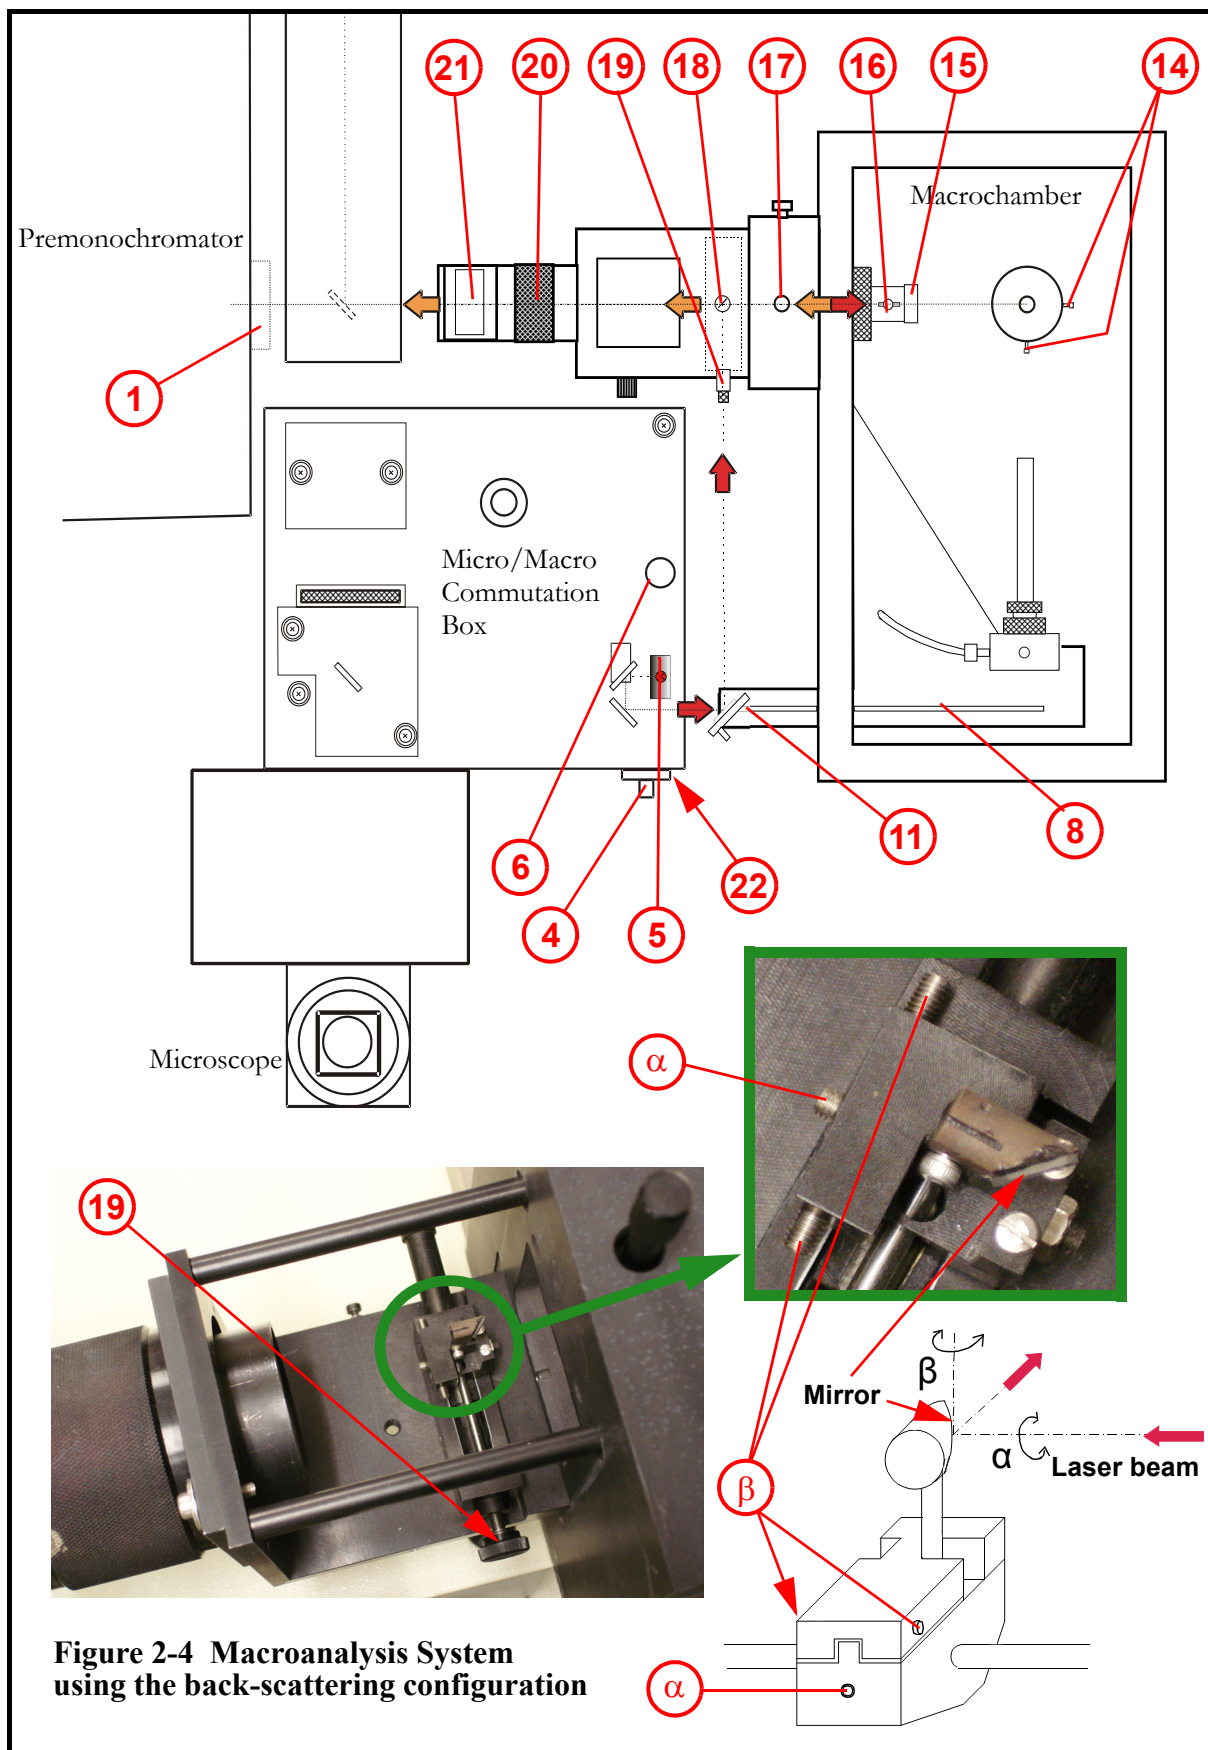

Figure 2-4 Macroanalysis System using the back-scattering configuration
3	1 Pull down the Micro/Macro selector (see “Micro/Macro Mirror” on page 40) and (6) figure 2-2, 2 Open the Macro-sample compartment, 3 Place a sample on the sample holder (14) located in the macro-sample compartment, 4 Displace the mirror (11) along the sliding rail by slightly unscrewing the knurled knob below the mirror holder, 5 Install the Back-Scattering mirror by sliding the (19) knob. This will perform a rough adjustment by steps. Fine tune the position using the rotative part of the (19) knob and the a and b screws located on the mirror holder (see figure 2-4, page 64). 6 Turn the XYZ adjustment screws as to perform a Raman-type light emission through the collimator lens at the output of the macro-sample compartment. The following devices can be fine tuned: - Mirror orientation (11) - XYZ sample holder adjustment (14) - collecting image focusing (16) or change the exit focusing adapter (15) -option- - T64000 entrance slit focusing with the transfer optics (20) NOTE: These adjustments would be easier using the Macro Camera Viewer or/and the entrance slit Viewer (Screen or Camera).